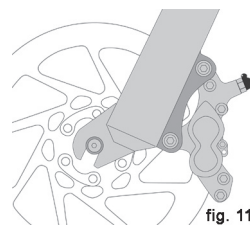
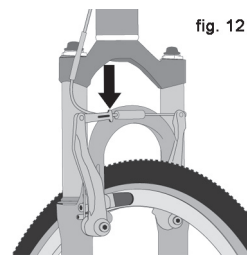

fig. 11
fig. 12
between the tire and the brake pads (See Section 4.C fig. 11 through 15).
(2) If your bike has rim brakes, disengage the brake's quick-release mechanism to increase the clearance between the wheel rim and the brake pads (see Section 4.C, figs. 11 through 15).
(3) On a derailleur gear system, pull the derailleur body back with your right hand.
3. Some bicycle brakes, such as disc brakes (fig. 11) and linear-pull brakes (fig. 12), are extremely powerful. Take extra care in becoming familiar with these brakes and exercise particular care when using them.
Most rim brakes have some form of quick-release mechanism to allow the brake pads to clear the tire when a wheel is removed or reinstalled. When the brake quick release is in the open position, the brakes are inoperative. Ask your dealer to make sure that you understand the way the brake quick release works on your bike (see figs. 12, 13, 14 & 15) and check each time to make sure both brakes work correctly before you get on the bike.